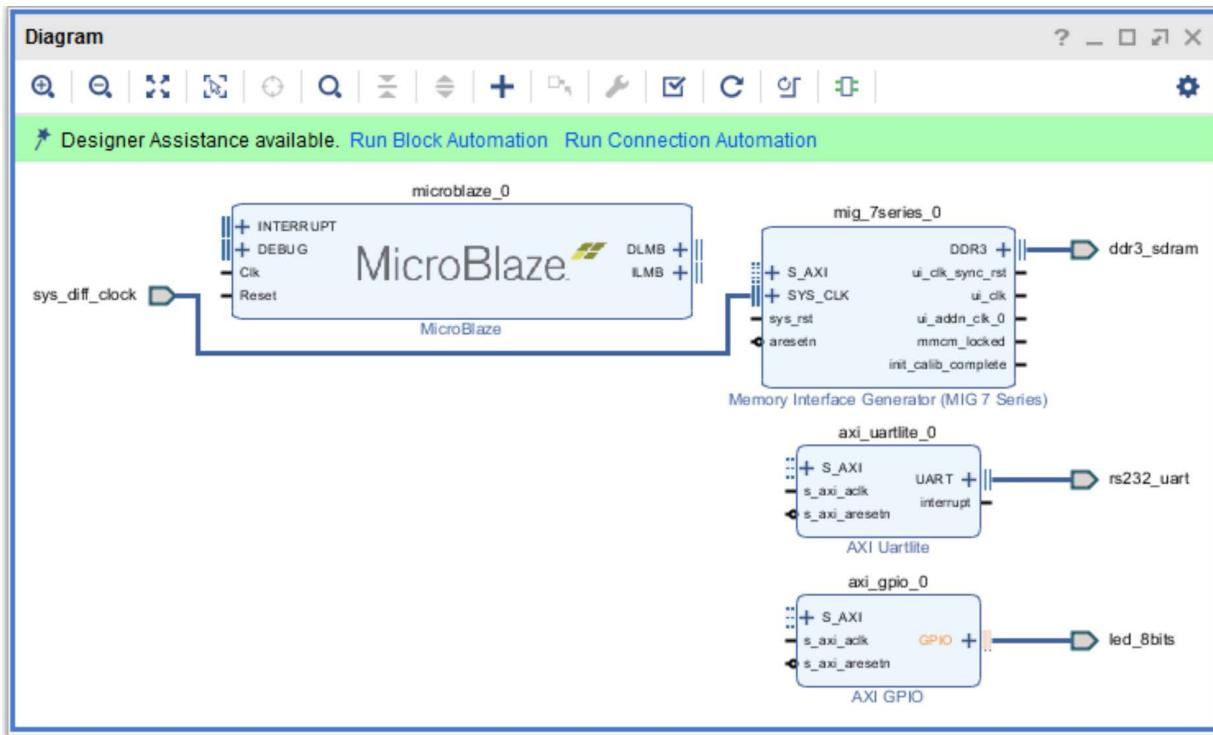

Figure 91: Block Design After Connecting the rs232_uart and the led_8bits Interfaces
7. The block design now should look like Figure 91.